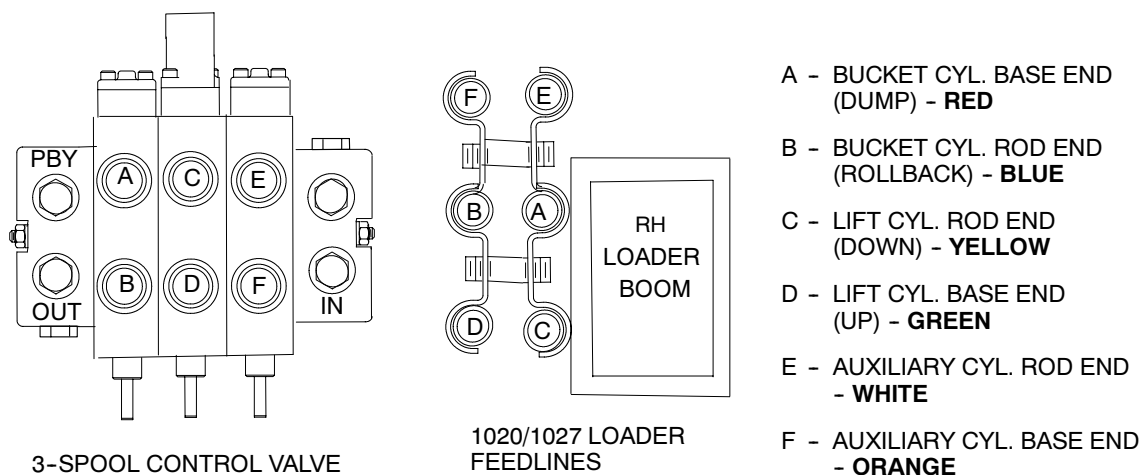

Figure 33 3-Spool Hydraulic Connection
■ Use care when identifying valve ports. Cable operated loader valve is mounted in the inverted position (stems down as shown in Figure 33.)
2. Connect loader feedline hoses to control valve hydraulic couplers following the color scheme shown in Figure 33.
3. Connect auxiliary feedlines to loader feedline hoses. Refer to Figure 33.